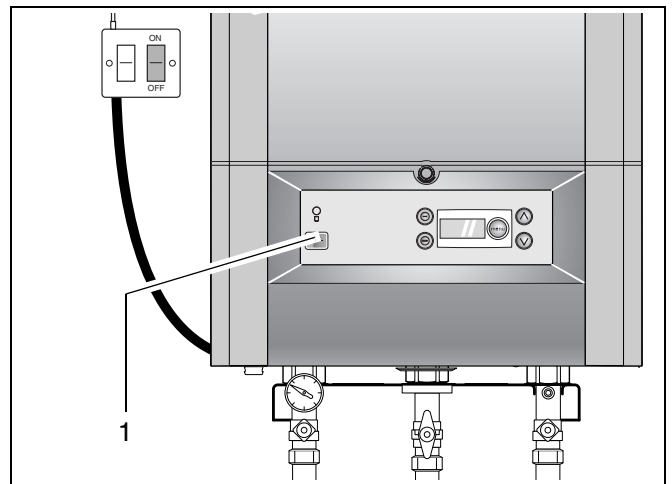

fig. 4 DBA – Mains switch
- Turn off the boiler by pressing the mains switch to "0" (fig. 4, item 1).